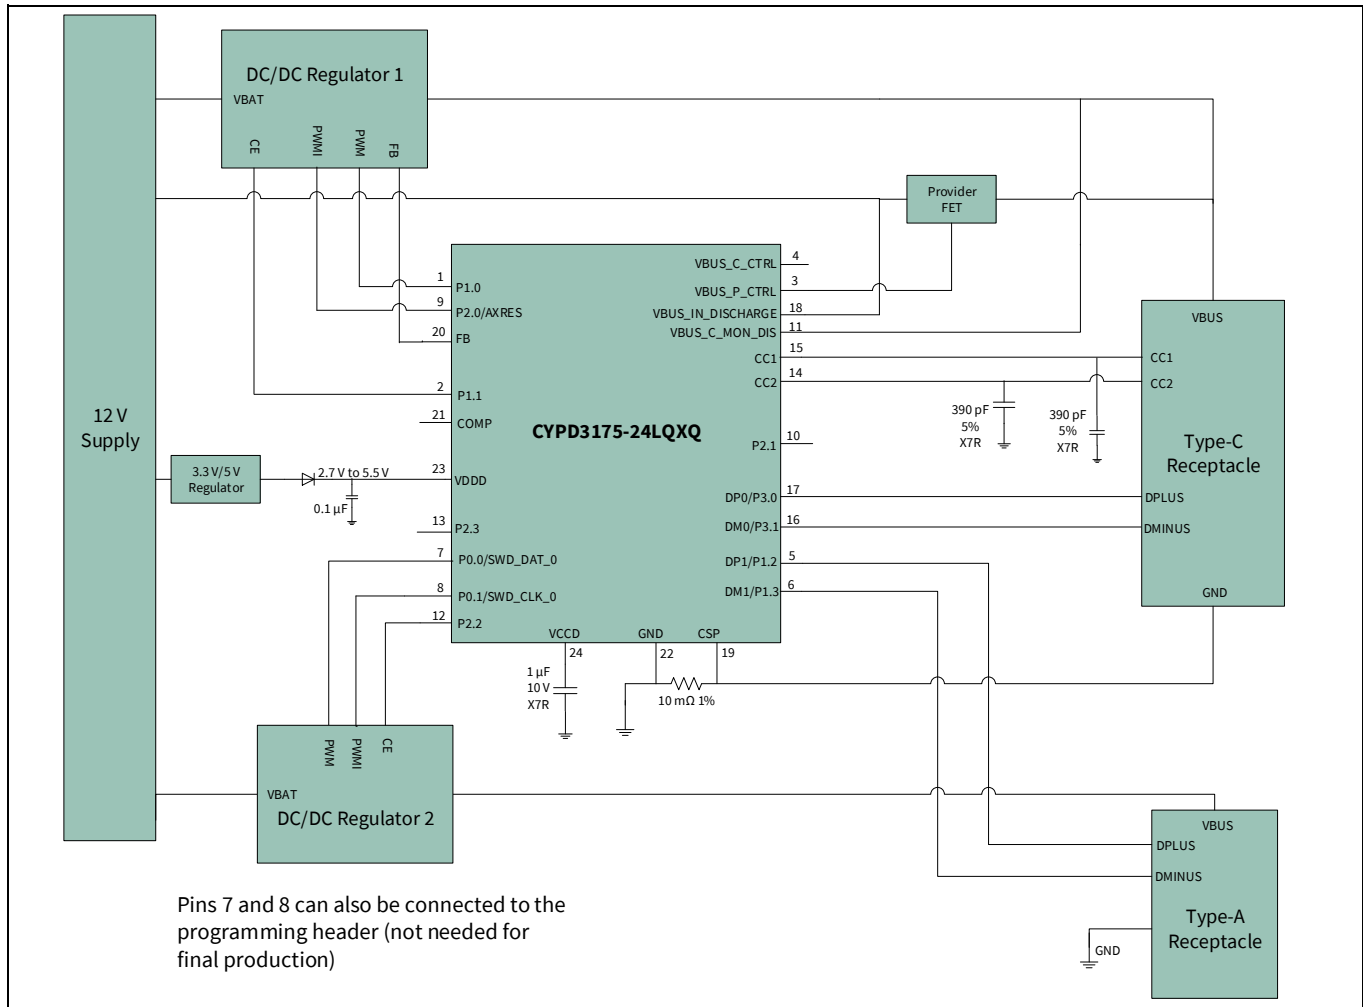

**Figure 8 CCG3PA based power adapter application diagram with direct feedback control**
**Figure 8** shows the application diagram of CCG3PA based power adapter with direct feedback control. In this application, VBUS is maintained at a constant voltage. The default value of VBUS upon power up (which is usually at 5 V) is set up by choosing the appropriate resistor divider that will set the FB node at a voltage expected by the secondary controller.